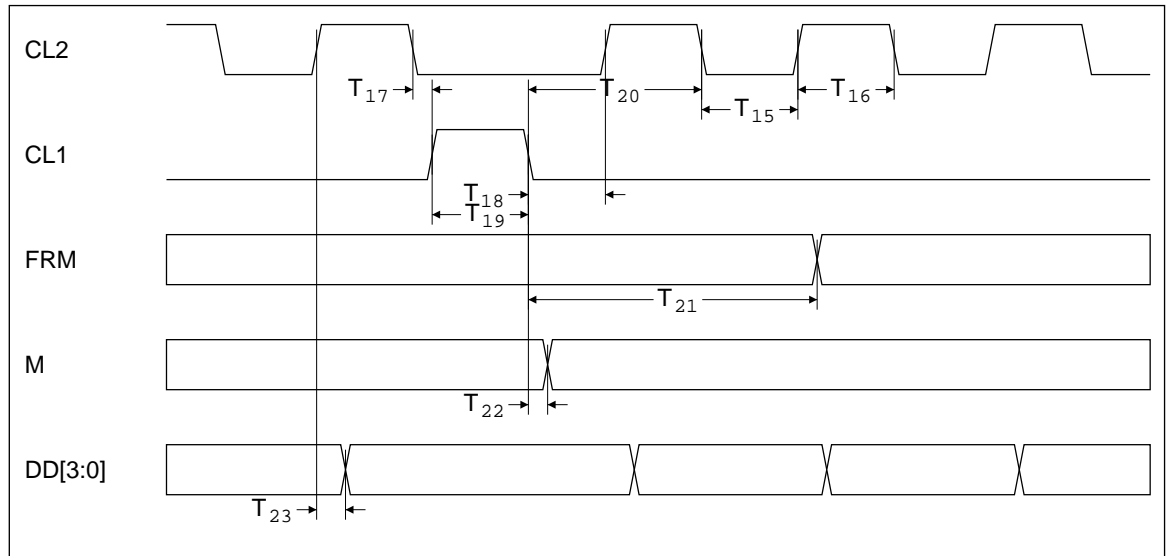

Figure 20-7: LCD controller timing
- 1 **Figure 20-7: LCD controller timing** shows the end of a line.